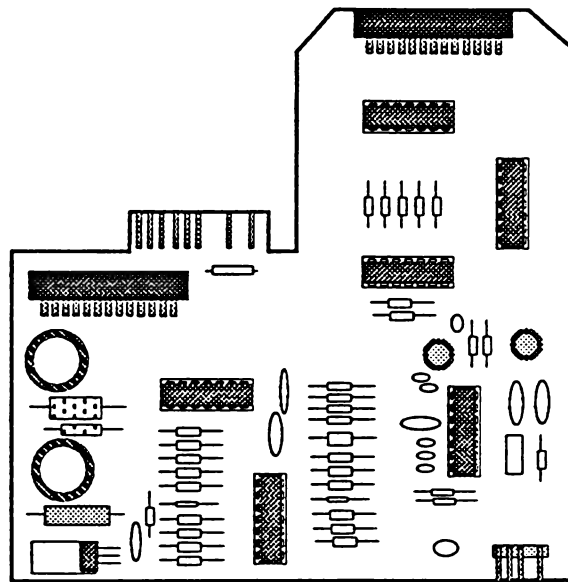

FIGURE 1
1. Remove the Apple III or III Plus analog board (see Figure 1) from the disk drive.